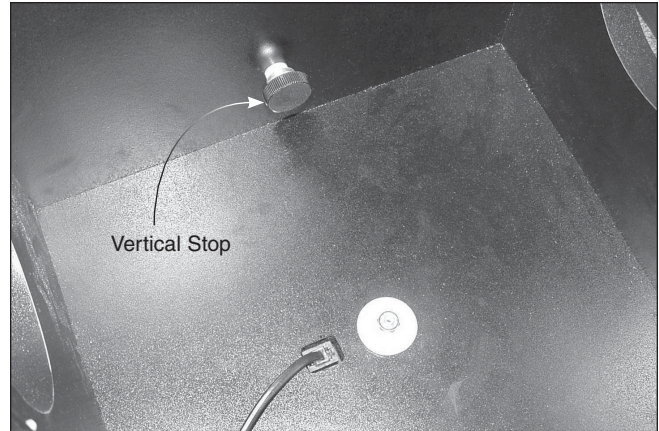

Figure 14. Thread the vertical stop, with washers attached, into the threaded insert in the front brace.
vertical stop screw. Thread the vertical stop knob into the threaded insert on the inside of the front brace (B) until tight (**Figure 14**). The position of the vertical stop is adjusted by adding or removing washers, this is why extra thick and thin washers are included. Adjusting the vertical stop is required when using the IntelliScope Object Locator, since the optical tube must be precisely vertical during the initial alignment procedure. The manual included with the IntelliScope Object Locator kit will detail the procedure for adjusting the vertical stop; once the vertical stop is properly adjusted, it should not need to be adjusted again.